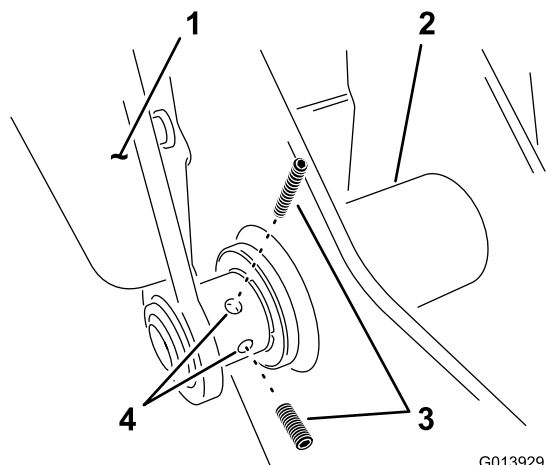

Figure 17
- Install 2 set screws to the left arm at the lower hinge point (Figure 17).